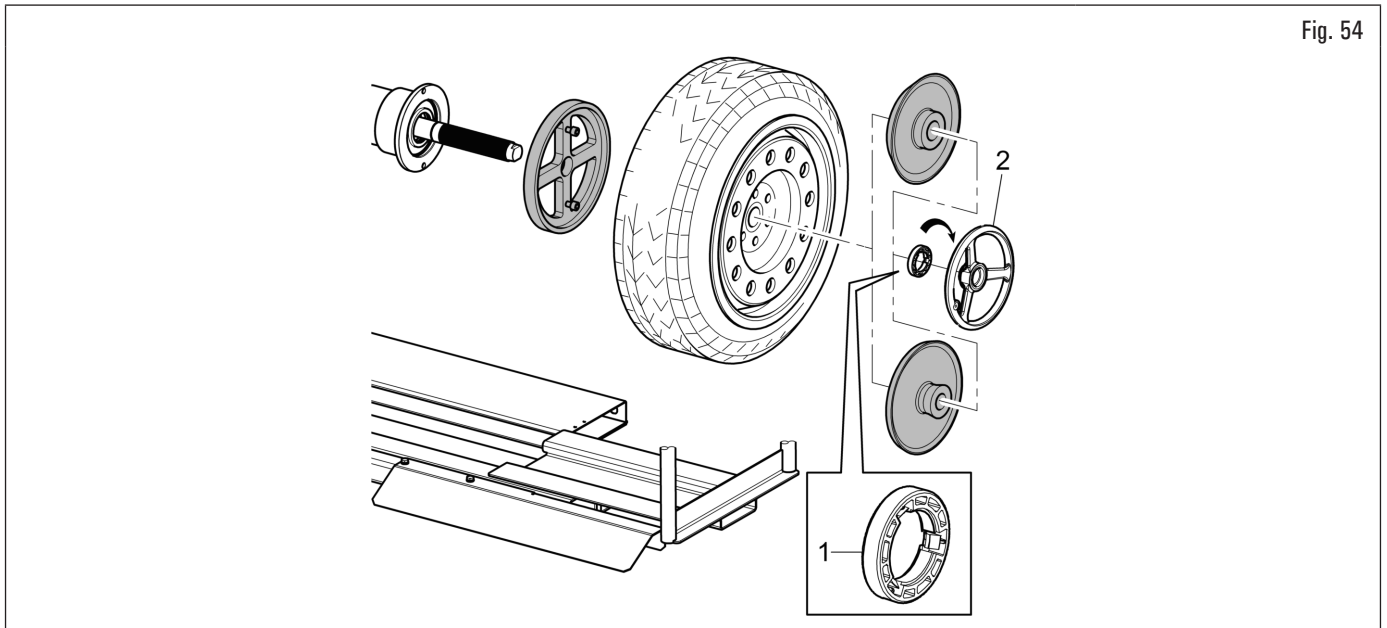

Fig. 54
Pay particular attention to the assembly sequence of the locking accessories, as shown in Fig. 54.
The pressure ring (Fig. 54 ref. 1) must be mounted with the teeth or discharge side towards the ring nut (Fig. 54 ref. 2).